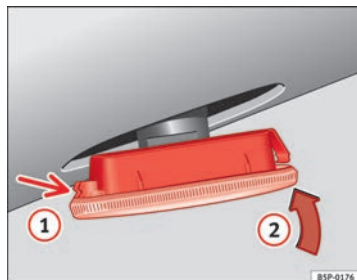

Fig. 197 Side turn signal
- First place the turn signal in the opening in the bodywork, fixing the tabs ⇒ Fig. 197, arrow ①.
- Insert the bulb as shown by the arrow ② ⇒ Fig. 197.